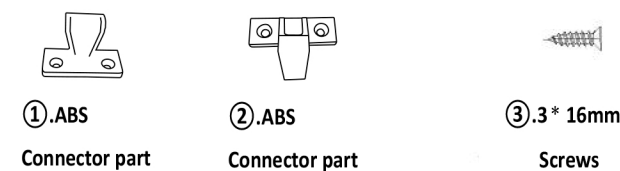

Fig 1
- Measure from the floor to the underside of the bath rim and attach the plinth using screws provided ③ to the back of the bottom of the panel to match this height. (see ③ in Fig 1, Fig 2)